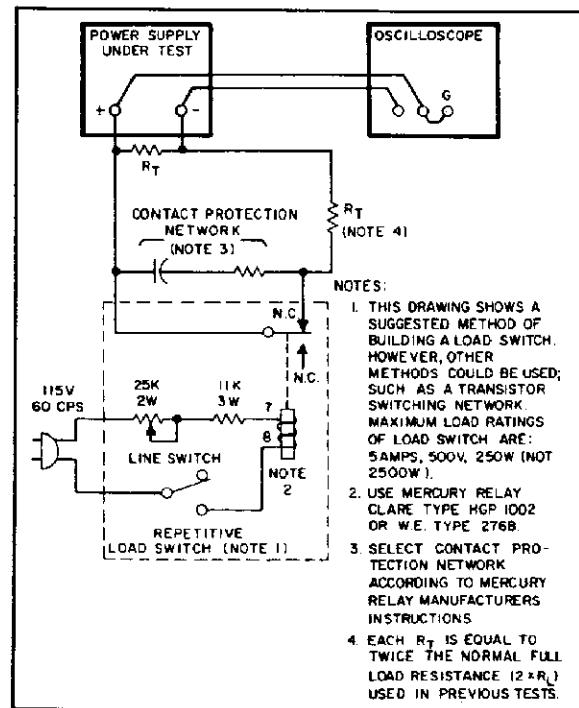

Figure 5-5. Load Transient Recovery Time, Test Setup
current changes are to be achieved. Instead, a mercury-wetted relay should be used for loading and unloading the supply. Connect it in the load switching circuit shown in Figure 5-5. When this load switch is connected to a 60 Hz ac input, the mercury-wetted relay will open and close 60 times per second. The 25K control adjusts the duty cycle of the load current switching to reduce jitter in the oscilloscope display. This relay may also be used with a 50 Hz ac input.
- a. Connect the test setup shown in Figure 5-5. Both load resistors ( $R_L$ ) are twice the normal value of a full load resistance.